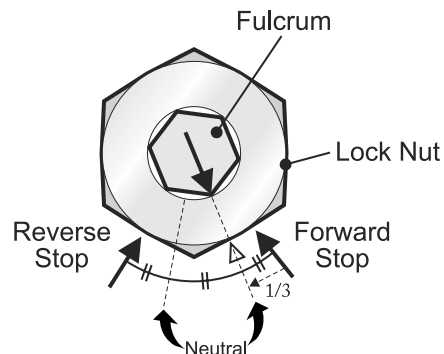

Fig. 51, Neutral Adjustment I
7. Turn the Fulcrum Shaft counterclockwise slowly until the Axle Shafts stop rotating in reverse. Mark the Transaxle Case. (Fig. 51)
9. Turn the Fulcrum Shaft clockwise slowly until the Axle Shaft stops and mark the Transaxle Case. (Fig. 51)
10. Rotate mark on the Fulcrum clockwise to a position one third (1/3) distance from the forward stop point. (Fig. 51)
11. Hold the Fulcrum Shaft with a (8 mm) wrench, and tighten the (17 mm) Lock Nut. (Fig. 51)